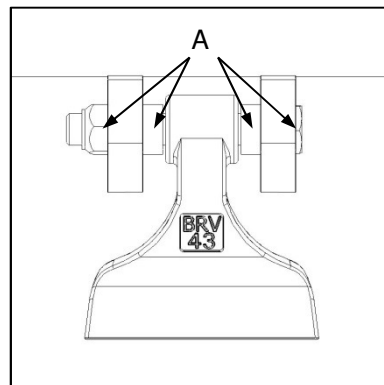
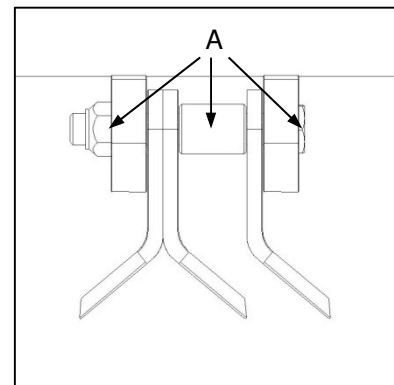

Fig. 8
Fig. 9
- ✔ Replace all associated mounting hardware when fitting new hammers or blades. This should include blade bolts, bushes and nuts (Fig. 8-A / Fig. 9-A).
- ✔ Vervang al die betrokke monteringsonderdele wanneer nuwe hamers of lemme aangebring word. Dit moet lemboute, -busse en -moere insluit (Fig. 8-A en Fig. 9-A).